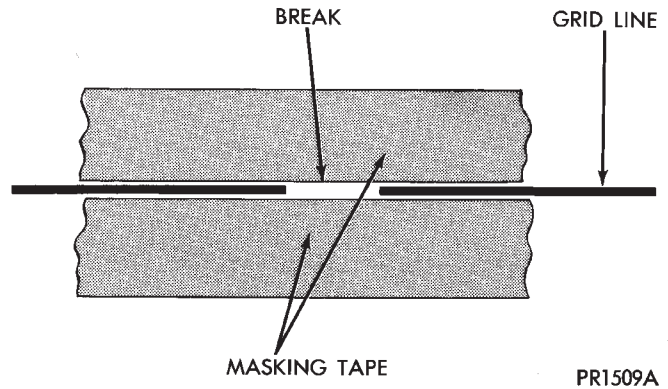

Fig. 4 Grid Line Repair - Typical
(1) Mask the repair area so that the conductive epoxy can be applied neatly. Extend the epoxy application onto the grid line or the bus bar on each side of the break (Fig. 4).